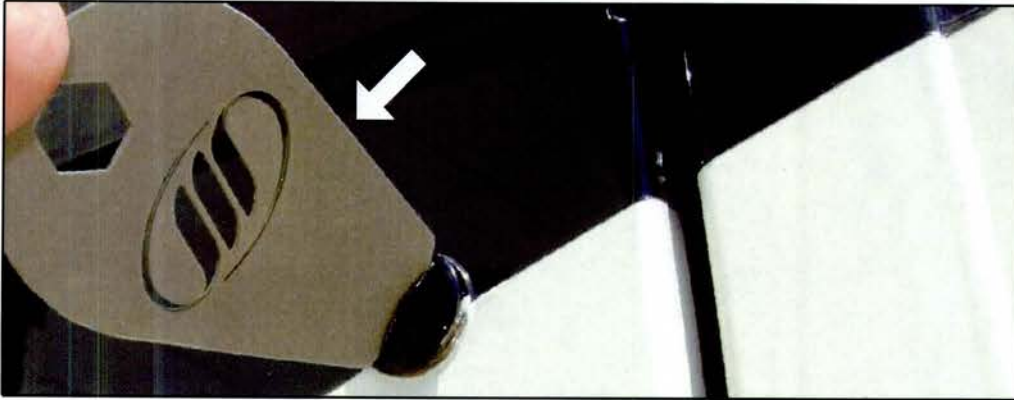

Figure 3. Reference photo of dzus fastener tool.
- Using a dzus fastener tool (refer to Figure 3), open the drag link compartment door, located below the drivers window and forward of the front wheel. Open door and locate the power management module (PMM) mounted on the upper, rear compartment wall.